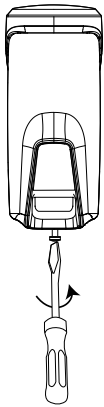
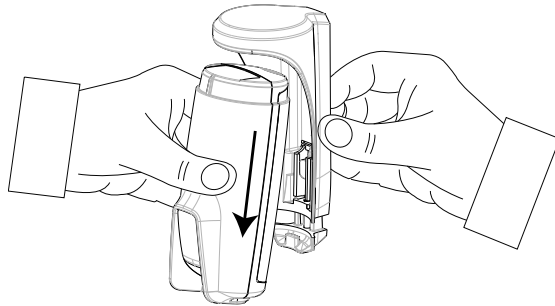

Figure 10 - Unscrewing the bracket
Figure 11 - Removing the detector from bracket
1. To separate the detector from the mounting bracket, unscrew the bottom screw (see Figure 10) and remove the detector from the bracket (see Figure 11).